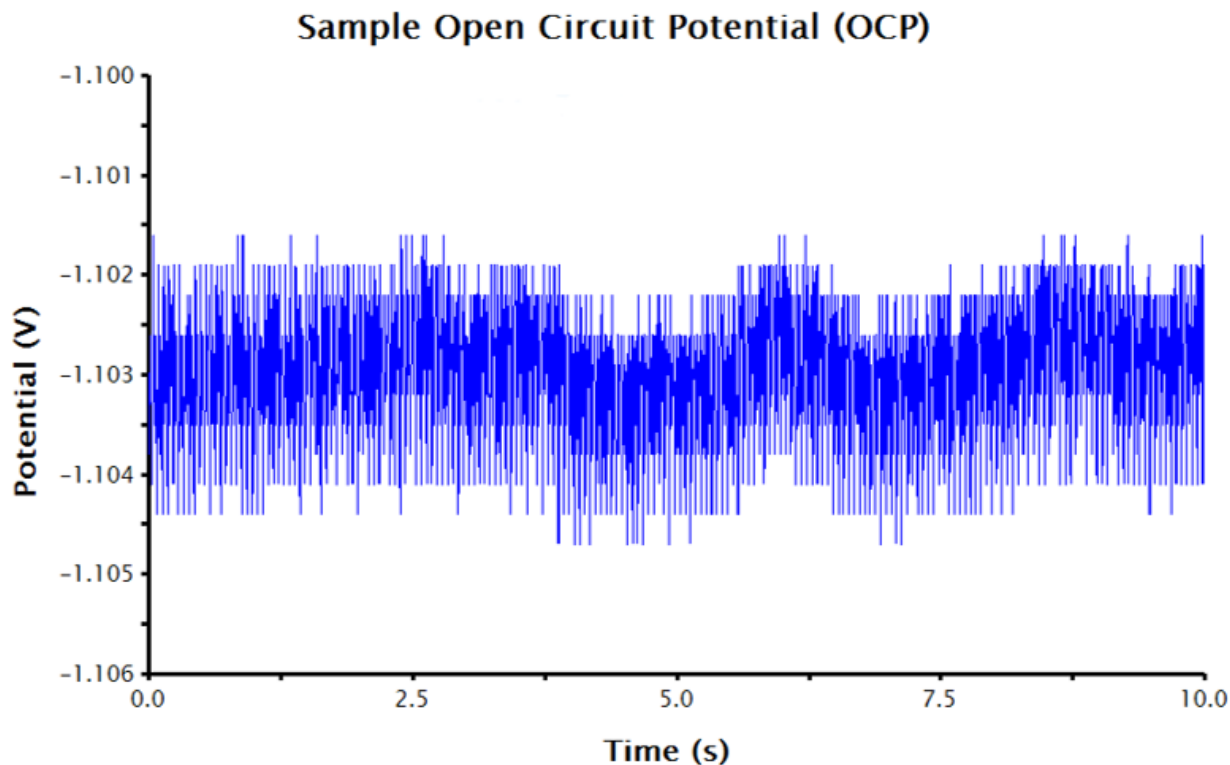

Figure 1. Raw OCP Data in AfterMath with Acceptable Noise.
3. Press **Perform**. AfterMath will collect and display the OCP data. Ideally, the potential vs. time trace that results should approach a zero slope, indicating equilibrium between the solution and electrodes. Typically, there is a small potential deviation over time ($100 \mu V$ in variance). This deviation is normal noise in the measurement (see: Figure 1)